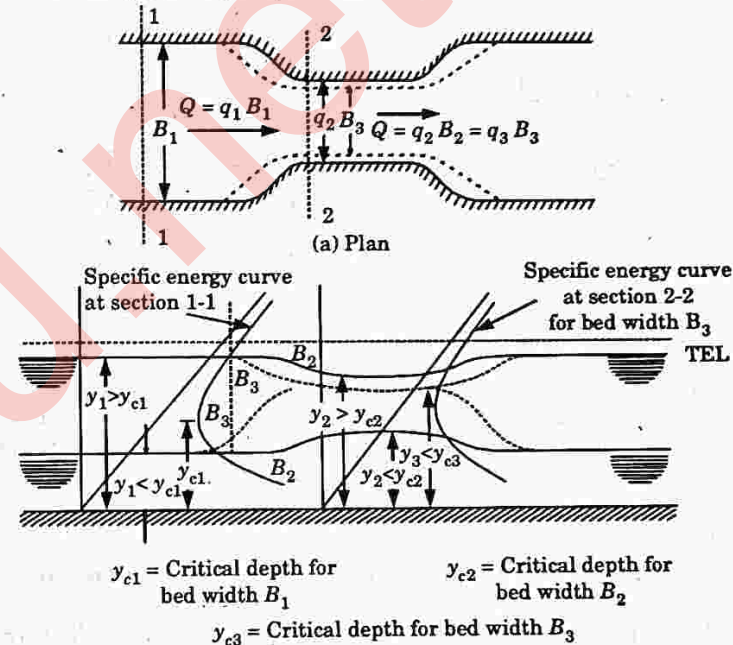

Fig. 2.1.1.
1. Consider a rectangular channel section. The width of the channel is reduced as shown in the Fig. 2.1.1.
- i. The width of channel at section (1) = B_1
- ii. The width of channel at section (2)-(2) = B_2